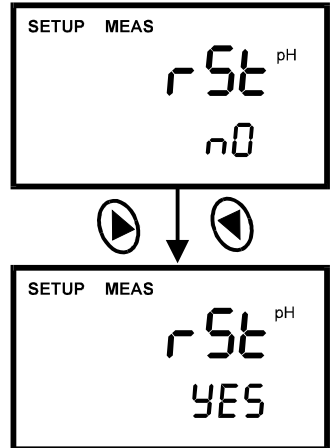

Figure 32 – P4.0: Reset to Factory Default Values (pH 300 Meter Only)
- 4 Press the ENTER key to enter parameter P4.0. See Figure 32.